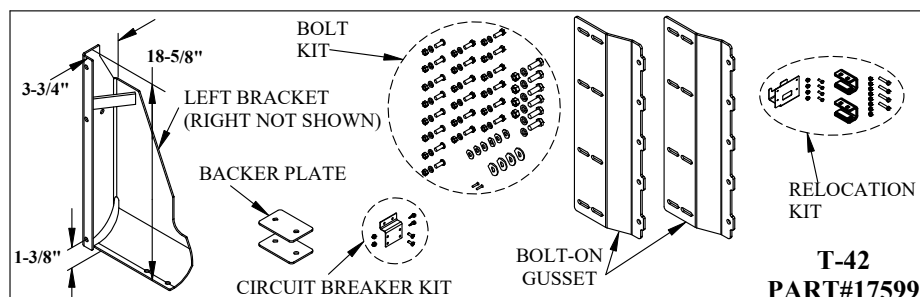

Figure 1: T-42 Part Identification.
2. Verify mounting bracket kit (Figure 1 and Table 1).